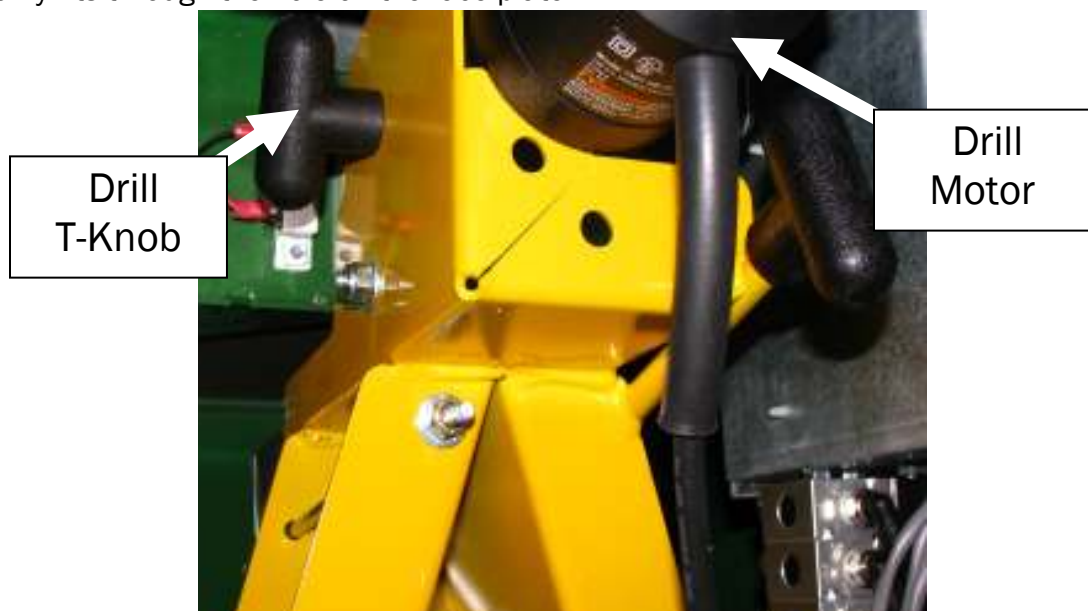

Figure 17
2. The Drill Motor is mounted on top of the yellow Motor Carriage. **See fig. 17**